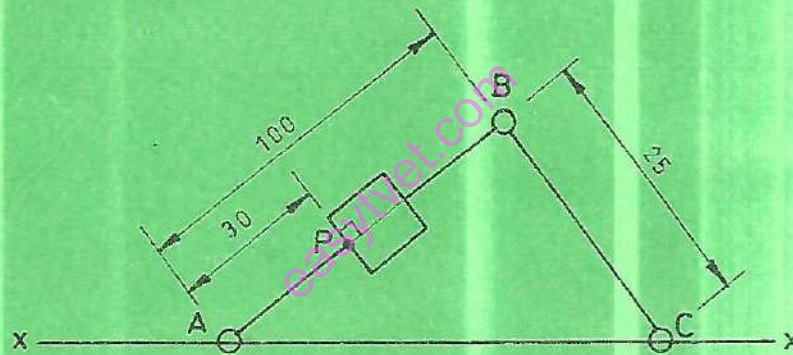

Fig.1
2. (a) Figure 1 shows the connection of a link mechanism. Given that point "A" is restricted to a linear motion along  $x-x$  axis and point B moves around centre C, trace the locus of point "P" on a plate fixed on the connecting rod AB as B makes one revolution. (12 marks)